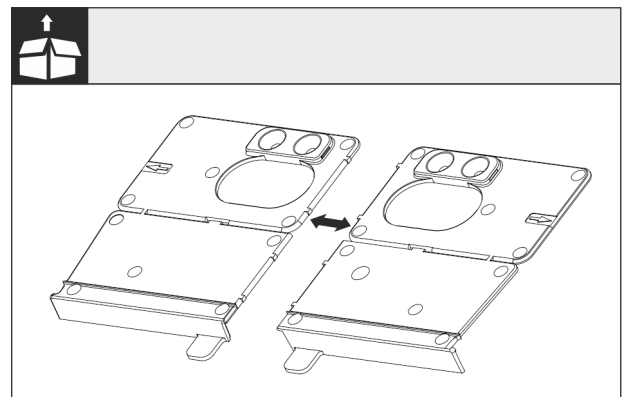

Fig. 25
► Separate the floor mounting bracket Fig. 25 () at the perforation.